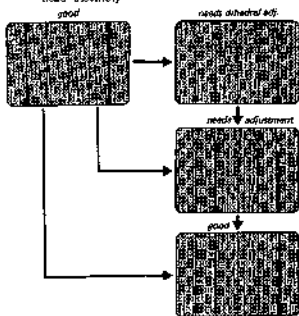

Fig. 4-6. Head dihedral adjustment
3. Observe the picture on the monitor. (Do not use a monitor set for a short horizontal AFC time constant.) If the top of the picture is as shown by "A" in Fig. 4-6 (it appears as horizontal jitter), adjust Video Head B as follows.
- Play back the tape and observe the top of the picture shown in Fig. 4-6.